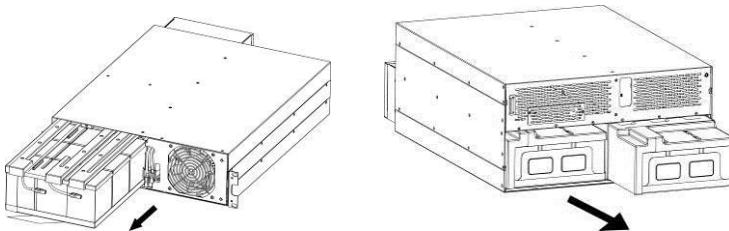

Figure 9: Battery module inserts of the XANTO S 6000 and 10000
6. Pull the battery modules forwards using the plastic tabs (see Figure 9)